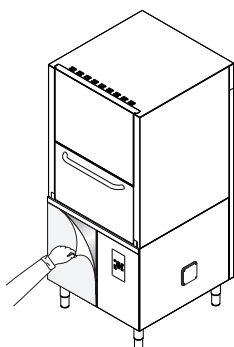

Figure 8 Removing the film
- Carefully remove the protective film from the outer panels without tearing it, to avoid leaving traces of glue (Figure 8). .